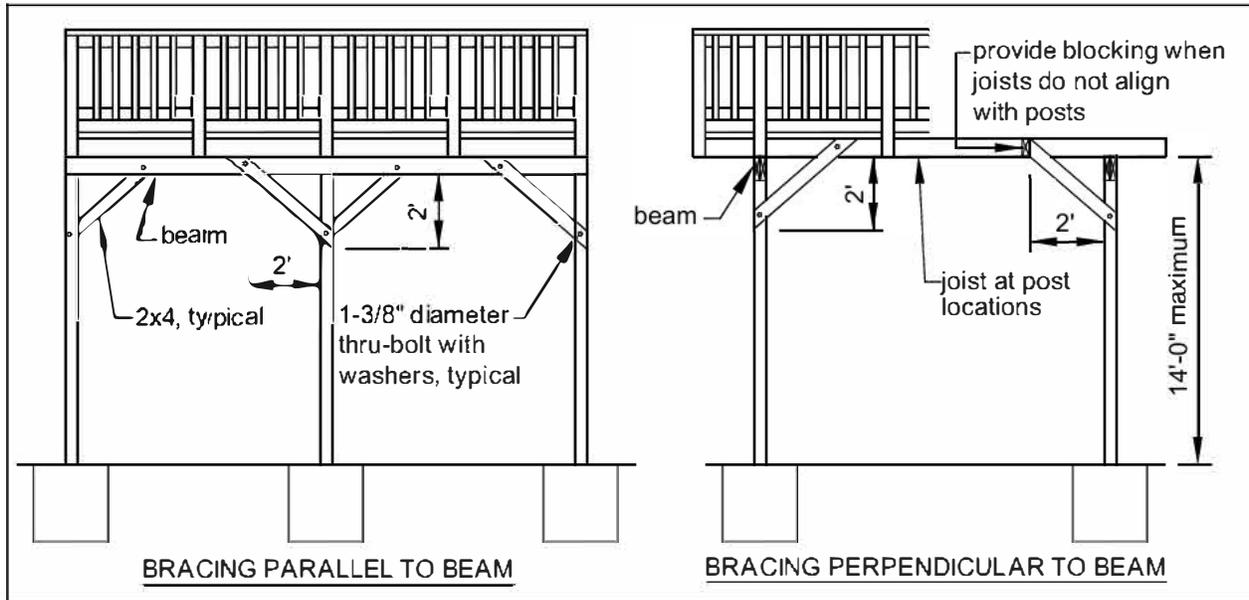

FIGURE 17: DIAGONAL BRACING REQUIREMENTS
***Note: 2 hold downs are required per deck and must have an allowable stress design capacity of not less than 1500 lbs. per device. If hold downs are not used or can not be installed, Diagonal braces must be installed for lateral support as shown in **FIGURE 17** or the deck must be freestanding.
Diagonal Bracing: Provide diagonal bracing both parallel and perpendicular to the beam at each post as shown in **FIGURE 17**. When parallel to the beam, the bracing shall be bolted to the post at one end and beam at the other. When perpendicular to the beam, the bracing shall be bolted to the post at one end and a joist at the other. When a joist does not align with the bracing location, provide blocking between the next adjacent joists.